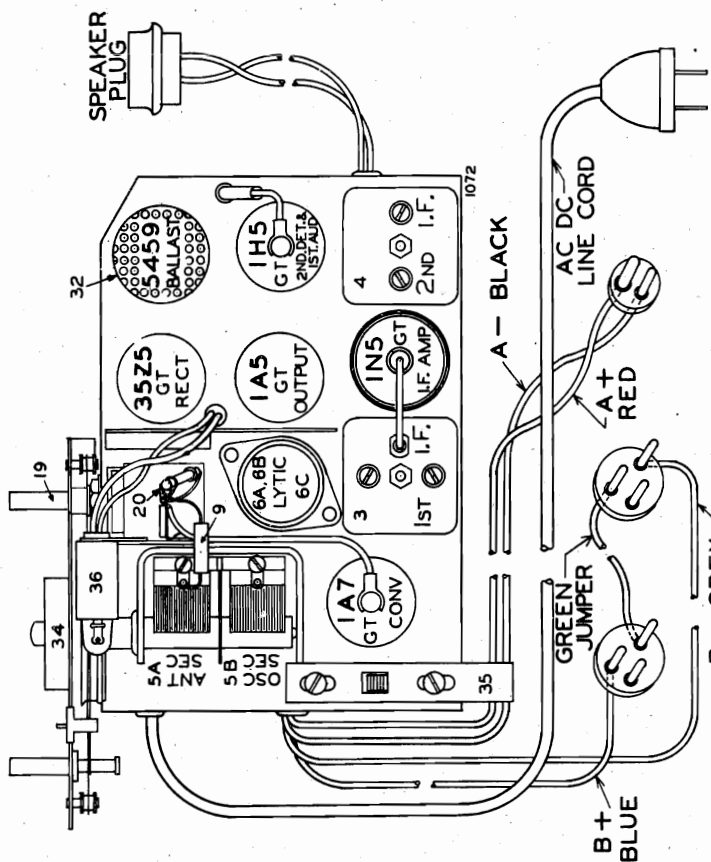

FIG. 1 TUBE LAYOUT PORTABLE RADIO #985651
- e. Adjust the trimmers on the 1st and 2nd I.F. transformers (illus. No. 3 and No. 4, Fig. 1) carefully for maximum output.
- d. Adjust the trimmer for the oscillator section of the condenser gang (illus. No. 5B, Fig. 1) for maximum output. It is very important that this frequency be set accurately as a slight mis-setting will cause the receiver to be out of track over the entire high frequency end of the dial.
- f. Adjust the trimmer on the condenser gang (illus. No. 5A, Fig. 1) for maximum output.